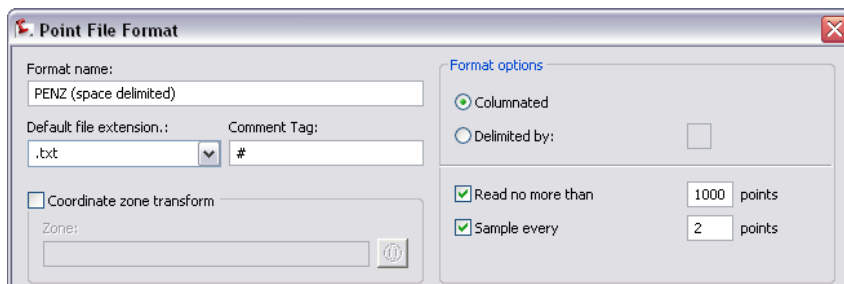

Figure 1: Settings for point file filtering
- 3 In the Point File Format dialog box (figure 1), set the options on the lower right to limit the total number of points and set a sampling rate.